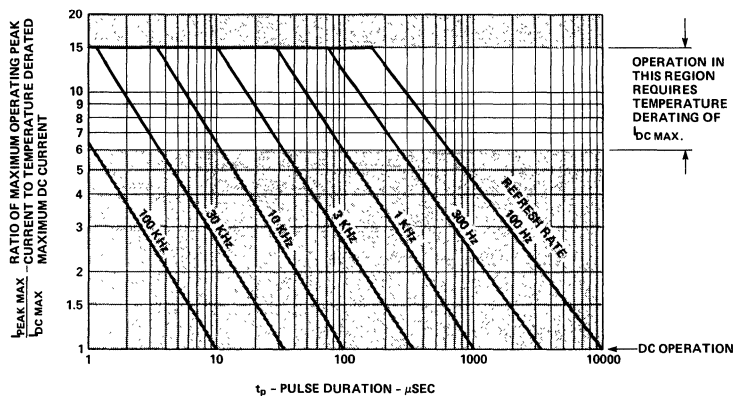

Figure 1. Maximum Tolerable Peak Current vs. Pulse Duration.
- Enter Figure 1 at the calculated t_p . Move vertically to the refresh rate line and then record the corresponding value of $I_{P\text{ MAX}}/I_{DC\text{ MAX}}$.